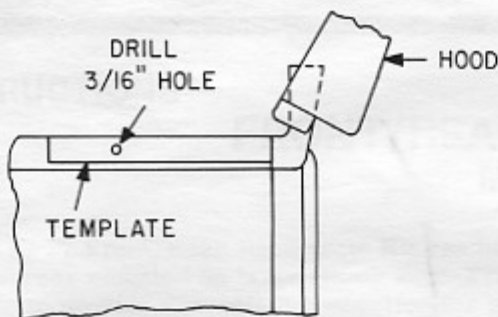

Fig. 6 Right Panel
4. Locate and drill a 3/16-inch hole in the right side panel, using the template provided as shown in Fig. 6. Place a cloth inside the drilling area to prevent metal chips from entering the compartment.